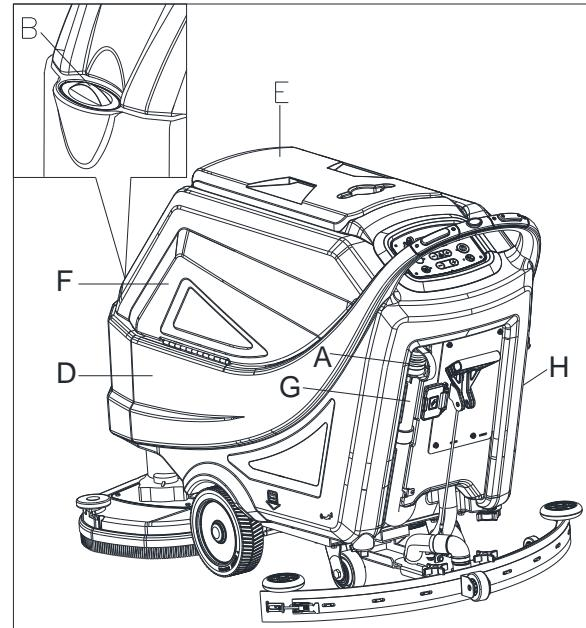

Figure 12
1. Open the water inlet cover (B, Figure 12).
3. Do not overfill the tank, refer to water level indicator (H) for the water volume.